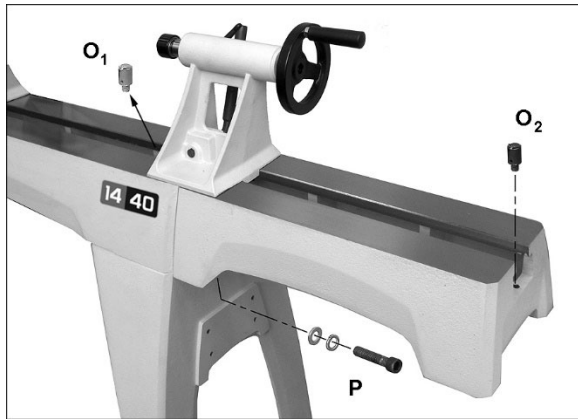

Figure 6
1. Unscrew stud (see N, Figure 6) from each end of bed. (Note: studs can be stored in one of the threaded holes in lathe legs.)
2. Have an assistant hold bed extension flush to end of lathe bed, and insert four 3/8" socket head cap screws with lock washers and flat washers, provided with the bed extension (P, Figure 6). Snug screws just enough to hold bed extension to lathe bed.